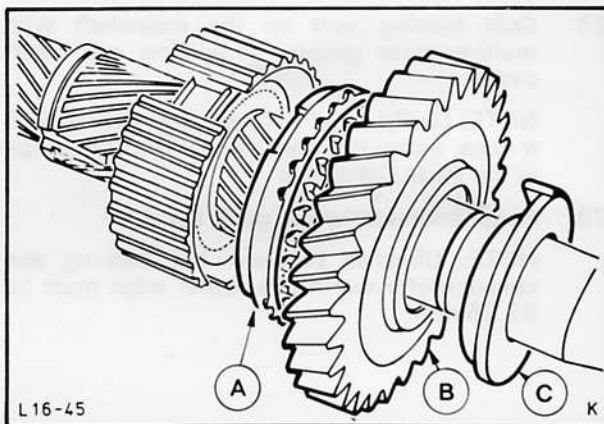

Fig. 38. Slide 1st gear with synchroniser ring and oil scoop ring onto mainshaft
26. Slide 1st gear with synchroniser ring and oil scoop ring onto the mainshaft, Fig. 38.